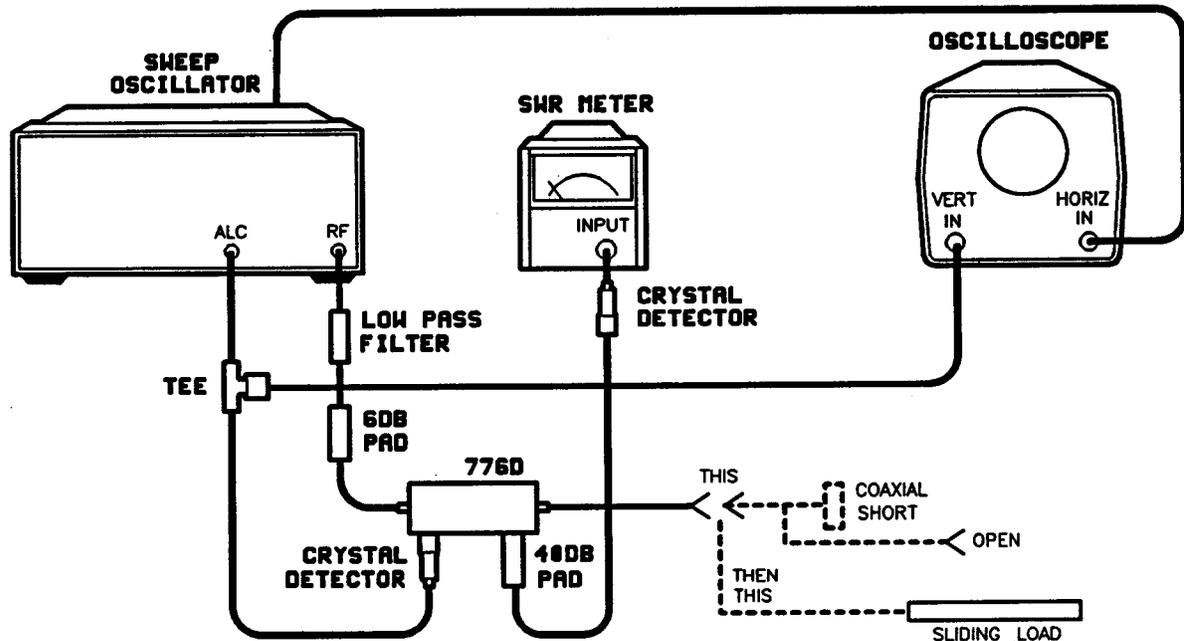

Figure 6 Directivity Test Setup
1. Connect the equipment as shown in Figure 6, with the Agilent 776D under test un-terminated.